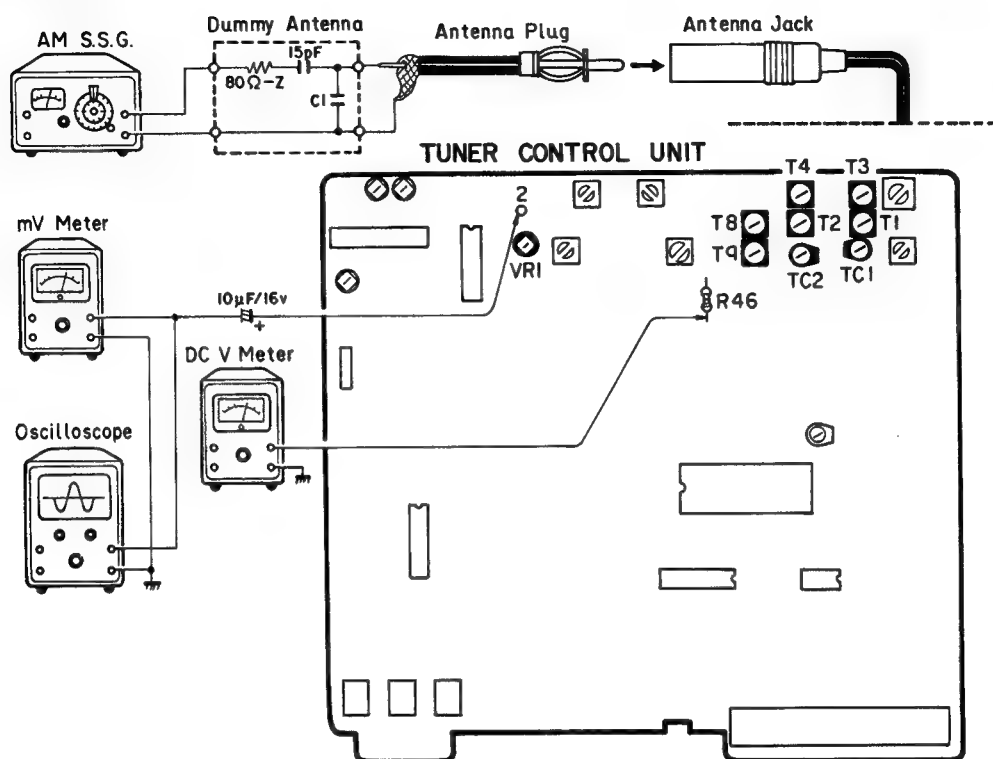

Fig. 32
3.11 AM (MW) SCAN (SEEK) SENSITIVITY ADJUSTMENT
- Connection Diagram (shown in Fig. 32)